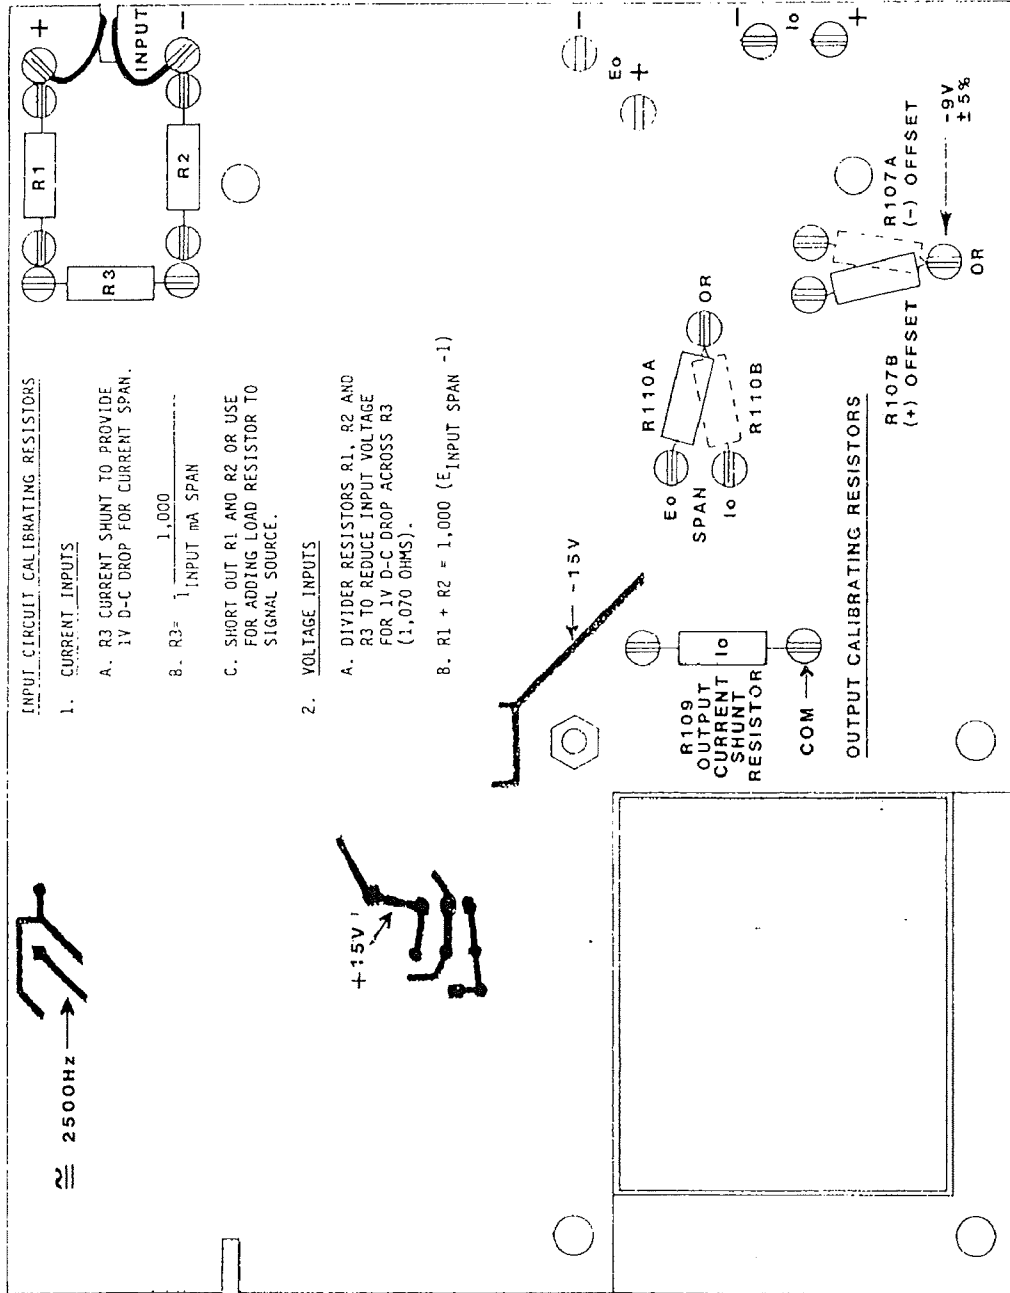

FIGURE 4-6 LOCATION OF CALIBRATING RESISTORS
- 4.2 When a major calibration change is required, either for another standard or a special range, refer to Figure 4-1 - SUMMARY OF CALIBRATION STEPS for an outline of calibration steps to consider. Reference should be made to applicable figures in parenthesis and Figure 4-6 - LOCATION OF CALIBRATING RESISTORS. All calibrating resistors are soldered to terminals located on top of printed circuit board.
- 5.2 Measure the regulated D-C supply voltage of + and - 15 volts, $\pm 5\%$, at R16 for +15V, and R17 for -15V. Check for -9V, $\pm 5\%$, at Common terminal between R107A and R107B. Observe with oscilloscope for a square wave of approximately 2,500 Hz, 25V P-P, at "ORN" lead of Toroid T3. All measurements are made in reference to Common. (Refer to Figure 4-6 in Section IV for the location of test points described above.)